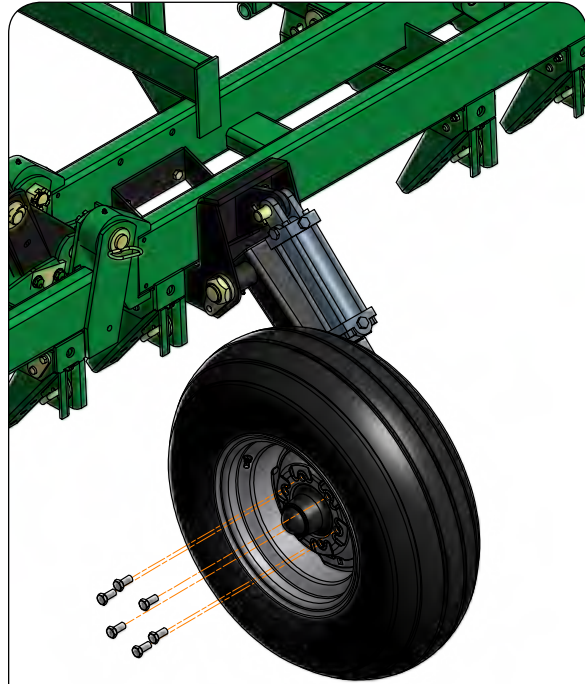

FIG. 2-34
4. Mount the tire and wheel assemblies (17679 or 17679SM) to the wing wheel assemblies with the wheel bolts 9/16-18UNF (9231) located on the hub (FIG. 2-34). Torque wheel bolts according to “Wheel Torque Chart” in MAINTENANCE Section.